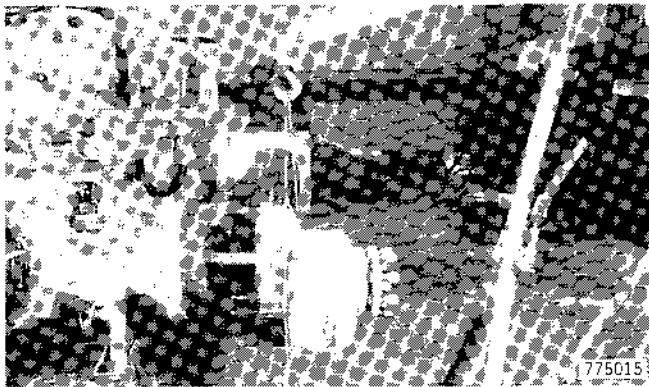

Figure 78
2. Lift the final drive and bring it into an alignment with the rear axle housing. Install final drive into the rear axle housing, Figure 78.